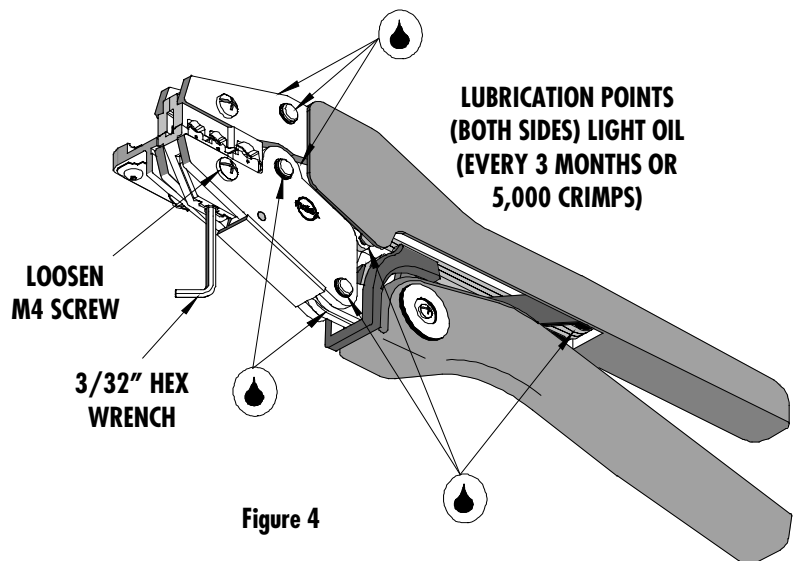

Figure 4
4. The 64001-6200 (19800-1200) was engineered for durability, but like any fine piece of equipment it needs cleaning and lubrication for a maximum service life of trouble-free crimping. A light oil, such as 30 weight automotive oil used at the oil points shown in Figure 4, every 5,000 crimps or 3 months will significantly enhance the tool life and ensure a stable calibration.